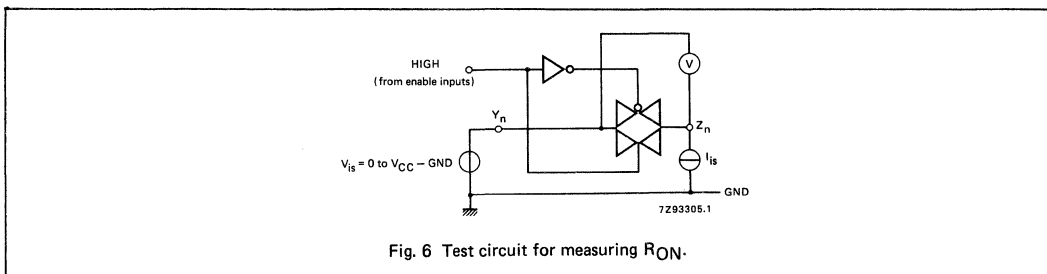

Fig. 6 Test circuit for measuring  $R_{ON}$ .
2. For test circuit measuring  $R_{ON}$  see Fig. 6.